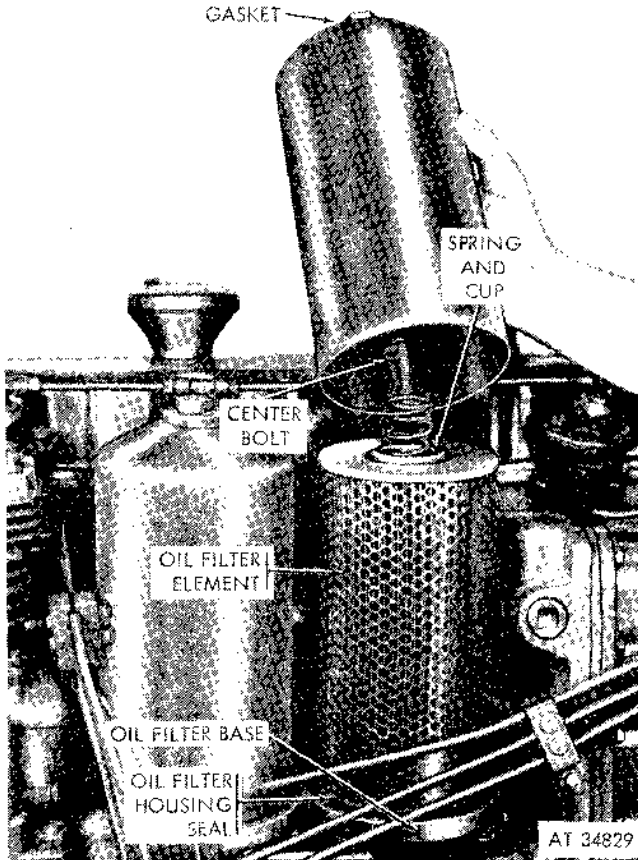

Figure 2-62. Replacing oil filter element.
(2) Unscrew the center bolt securing the rear oil filter housing to the filter base (fig. 2-62).
(3) Remove and discard the filter element, housing seal, and bolt gasket (fig. 2-62).
(4) Clean the filter housing, center bolt and seal seat, using drycleaning solvent or mineral spirits paint thinner.